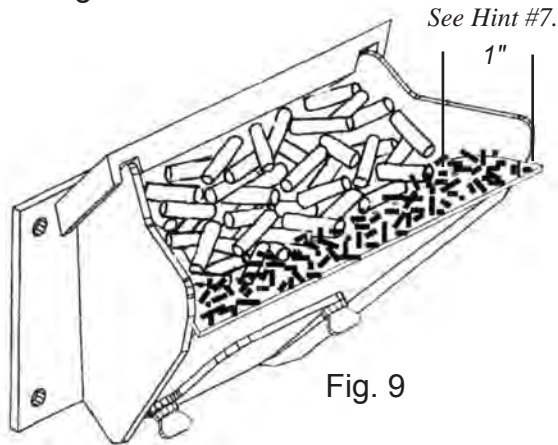

Fig. 9
7. Setting the feed adjuster # for maximum burn: With the unit burning in "AUTO", turn to "Stove Mode" and put the fan on "H". Set the Temperature Dial to #7. Allow the unit to burn for about 30 minutes and check ash on front of burn pot. Fig. 9. If the ash line is larger than 1", turn the feed adjuster from #4 to #5. Allow another 30 minutes of burn time and check again. If, at #6 setting, a 1" or less ash bed is not obtainable, it is not a problem. The 1" ash bed is only a maximum burn rate and at most normal settings the ash bed will be larger.